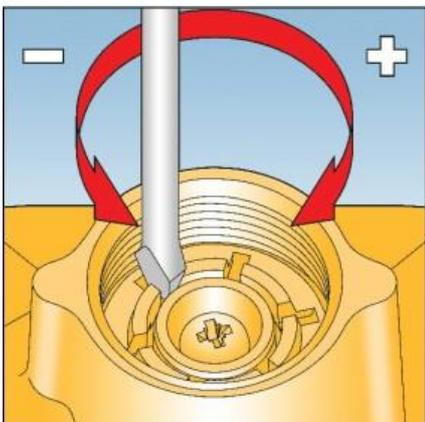

Fig. 6
4. Turn anticlockwise (-) to reduce loading on regulator spring to minimum. See Fig. 6 (If no safety devices are fitted go to instruction 12).
6. Insert a flat bladed screwdriver into one of the partial slots on the OPSS spring holder. See Fig. 6.
15. Slowly turn OPSS spring holder anticlockwise (-) until OPSS device trips. See Fig. 6.